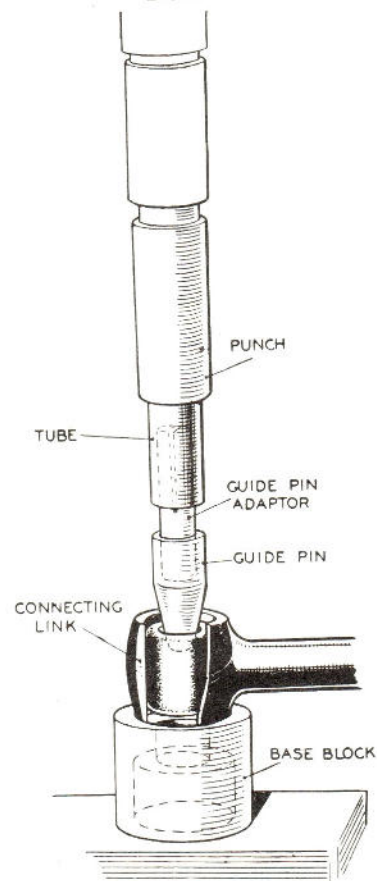

Fig. 84. METHOD OF FITTING TUBE
- (1) Place the boss end in position on base block as shown in Fig. 84 below.
- (2) Smear the face of the rubber with Petroleum jelly.